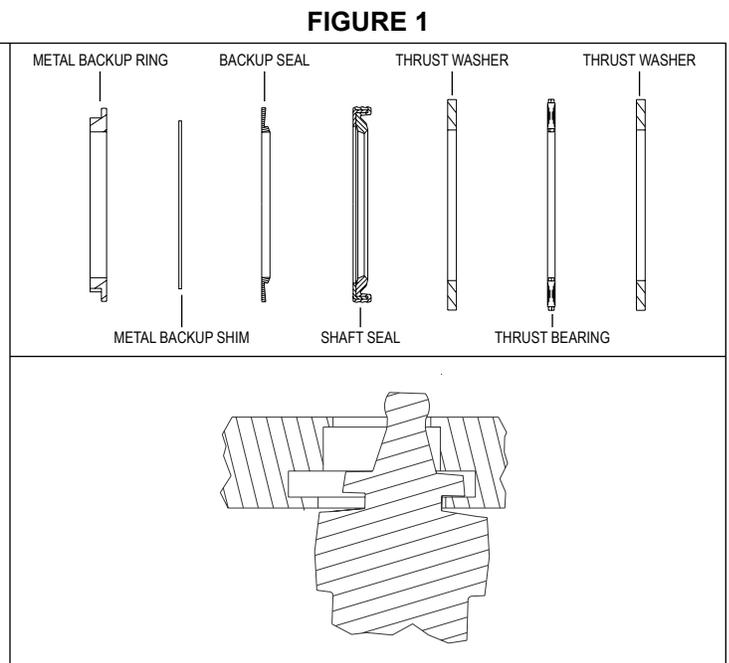

FIGURE 3
- L)** Place a body seal (9) into the groove in each face of the manifold (27). Lift the drive link (25) approximately .100 and place the tip on a small screwdriver under the disk-shaped portion of the drive link to hold it up. Making sure that the notch in the manifold is aligned with the tab on the rotor and that the side with the largest holes faces down, lower the manifold (27) onto the motor and engage the disk shaped portion of the drive link (25) into the groove in the manifold (27) (See Figure 3). Remove the screwdriver and lower the manifold (27). If the disk is engaged in the groove, the end of the drive link will protrude above the surface of the manifold. If it doesn't, remove manifold and repeat this step.
- M)** Install the commutator seal (10) into the commutator (28) with the metal side facing out (Refer to PI333004 when replacing commutator seal). Use finger pressure to press the seal down flush with the surface of the commutator. Place the commutator container (28) onto the manifold (27) and then place the commutator onto the protruding end of the drive link (25) making sure that the seal side faces up.
- N)** Install the remaining body seal (9) in the groove in the face of the endcover (31). Install the piston spring (30) into the endcover (31), then the white seal (12), followed by the O-ring seal (11). Lining up the alignment pin, press the piston (29) into the endcover (31). While holding the endcover piston (29) into the endcover (31), lower the endcover assembly onto the motor.
- O)** Install the four assembly bolts (33) and pre-torque to 13,6 Nm [10 ft. lb.]. Final torque all bolts to 69,8 ± 7,5 Nm [51.5 ± 5.5 ft. lb.].